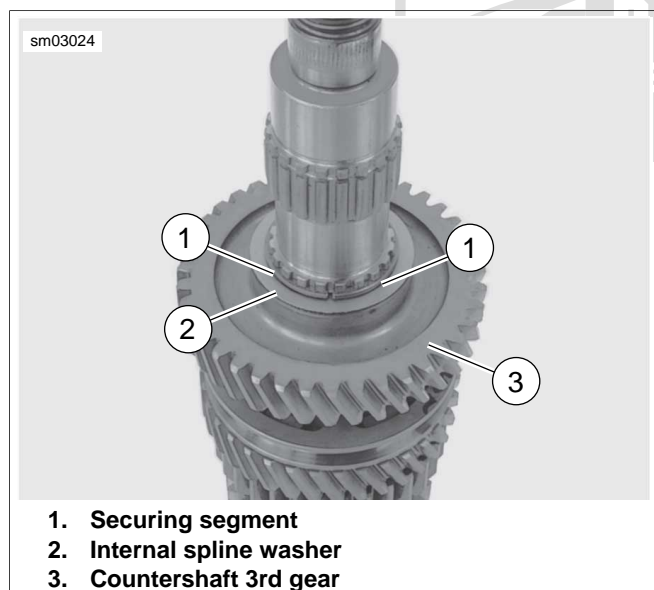

Figure 6-22. Countershaft Third Gear
7. See Figure 6-22. Remove securing segments (1), internal spline washer (2), countershaft 3rd gear (3) and bearing.
2. See Figure 6-22. Install **new** needle bearing, countershaft 3rd gear (3), internal spline washer (2) and securing segments (1).